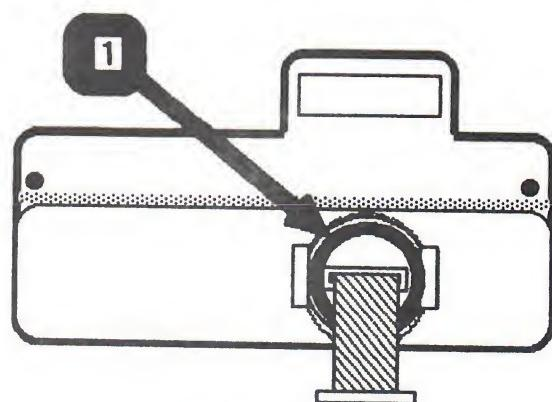

FIGURE 14
3. Slip the toroid ring (Figure 14, #1) back over the ribbon cable.